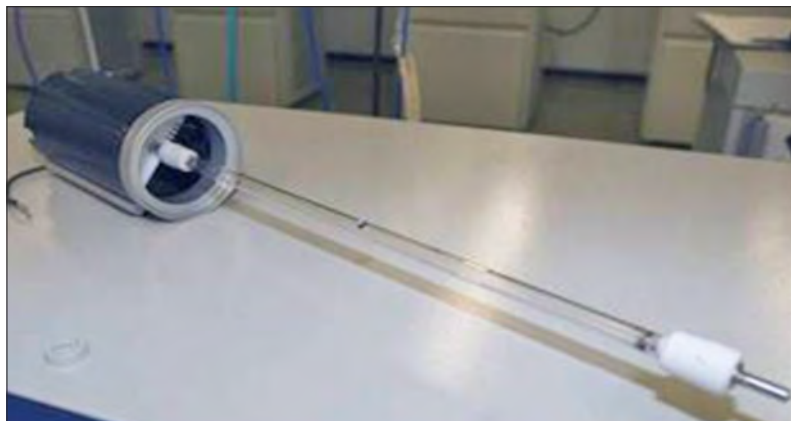

Figure 7.1a: Xenon lamp.
- Q-SUN Xe-2 testers use a xenon lamp (Figure 7.1a) to reproduce the damaging effects of sunlight.